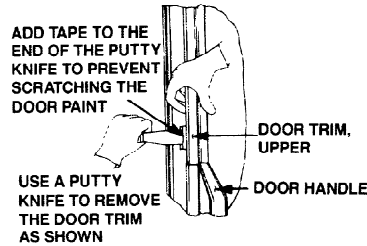

FIGURE 4
1. First remove the upper and lower door handle trim from both doors. See Figure 4.